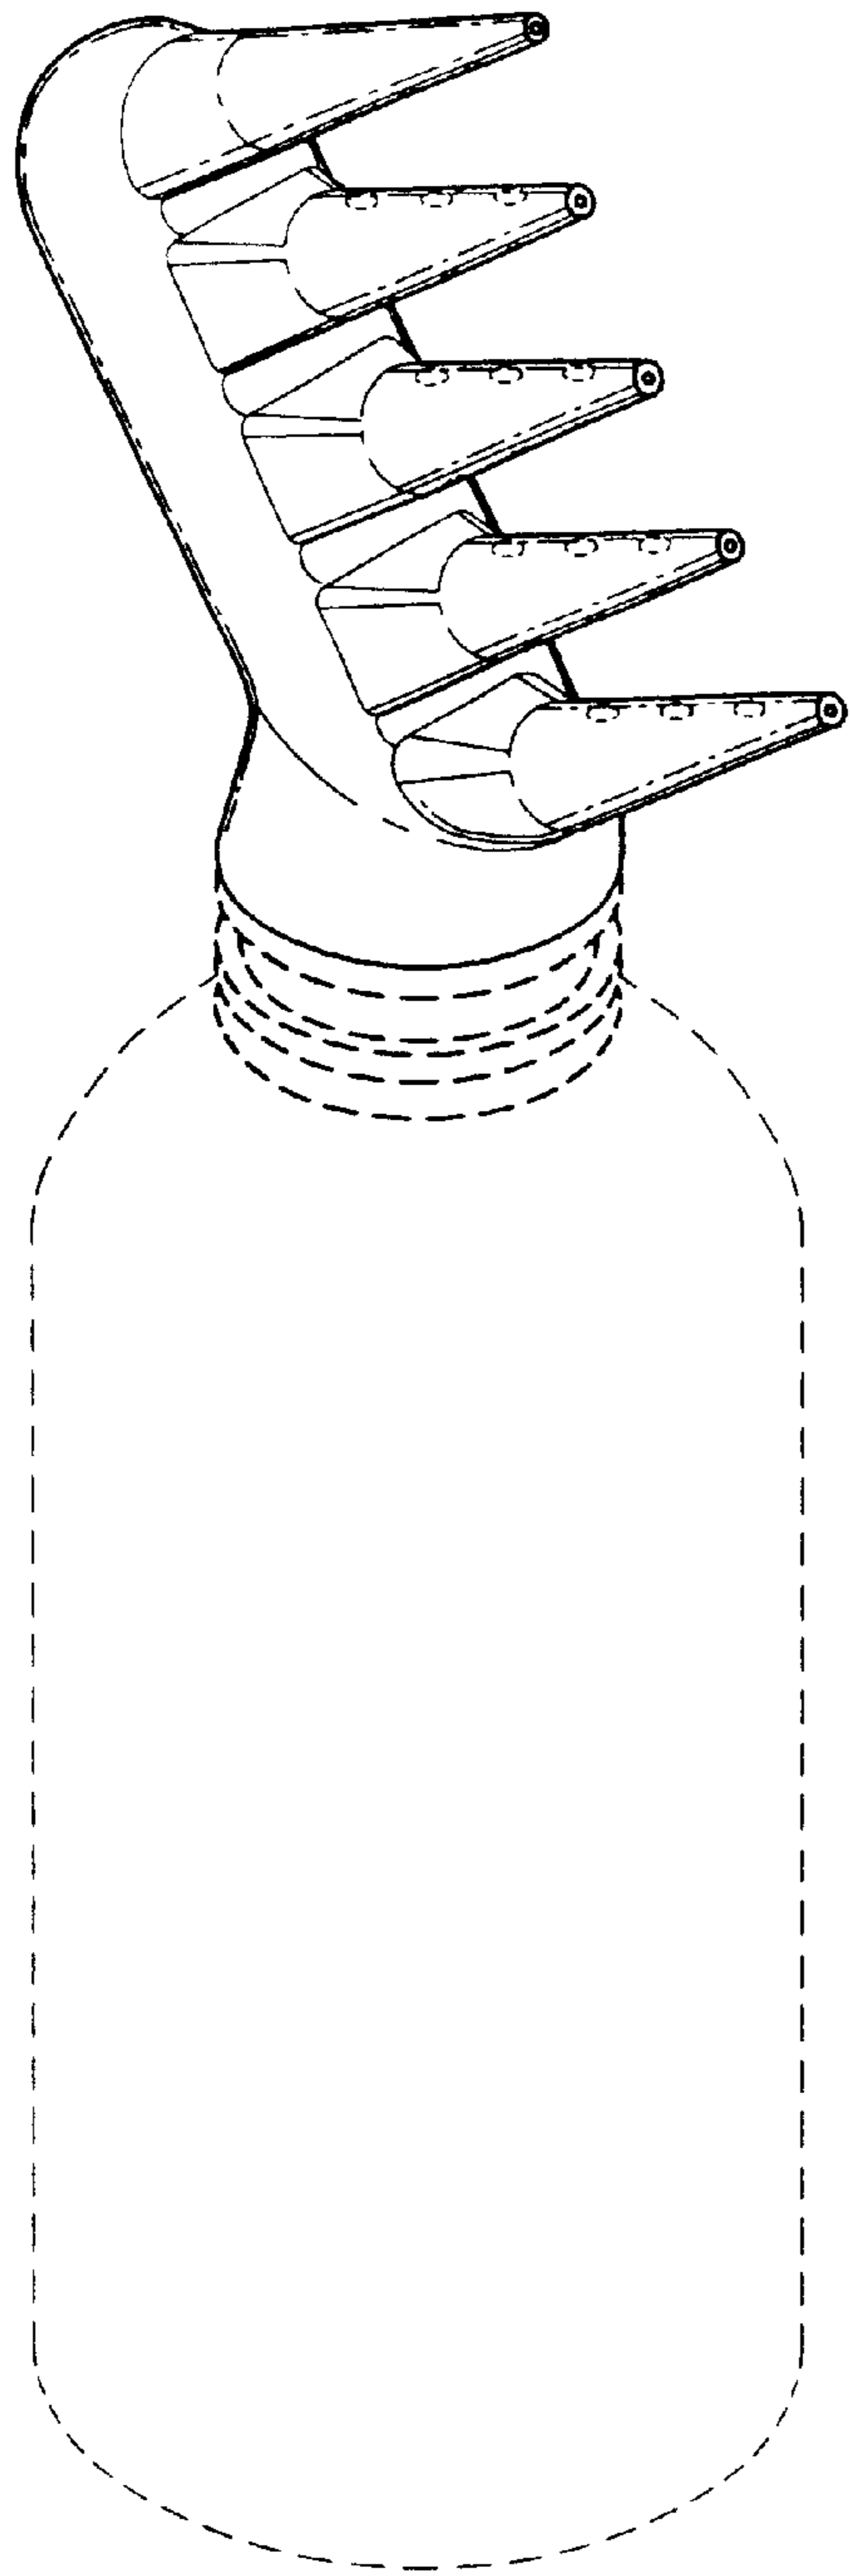

FIG. 8
- FIG. 8 is a top, front, right side perspective view of a second embodiment of a hair color applicator showing our new design;